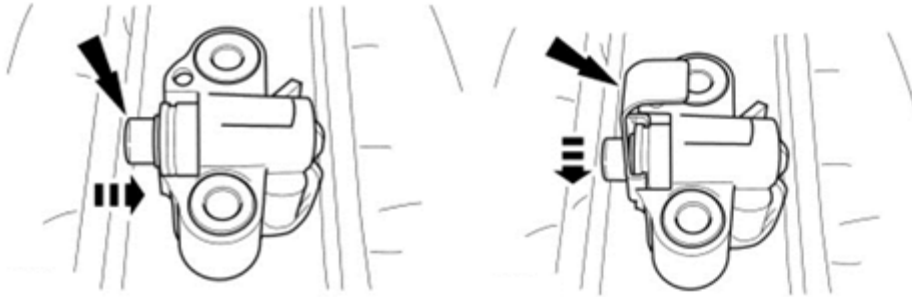

Figure 3 – Compressing Tensioner Plunger & Installing Retaining Clip
3. Compress the tensioner plunger by using a vise and install a retaining clip on the tensioner to hold the plunger in place during installation, refer to Figure 3. Remove the tensioner from the vise.